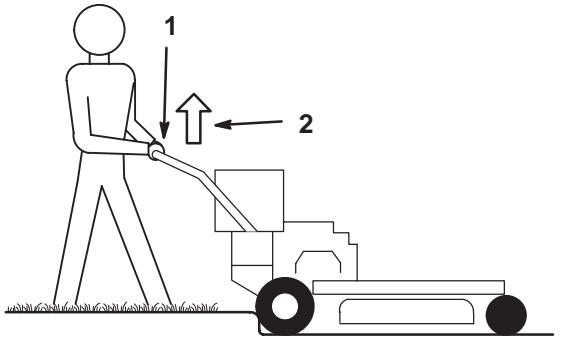

Figure 18
3. Drive machine until drive wheels contact curb (Fig. 18).